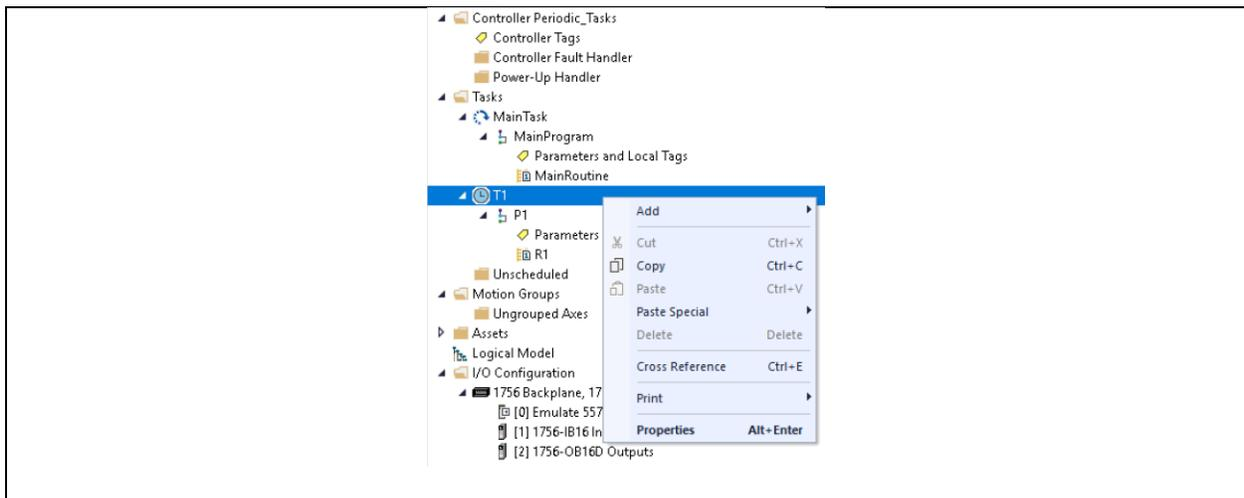

Figure 6. Viewing the Properties of the T1 Periodic Task.
1. Right mouse click on the T1 Periodic Task and choose Properties (Figure 6)